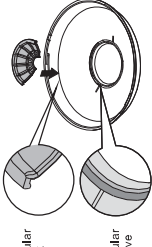
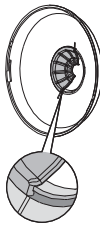

FIG.24
FIG.25
4.3.3 Fixing lens shield: There is a circular groove on the back of the lens shield. Insert the lens shield into the circular groove on the decorative frame (See FIG.24 & FIG.25).